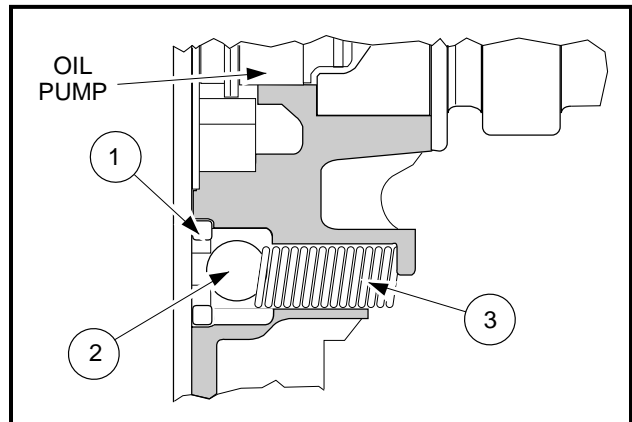
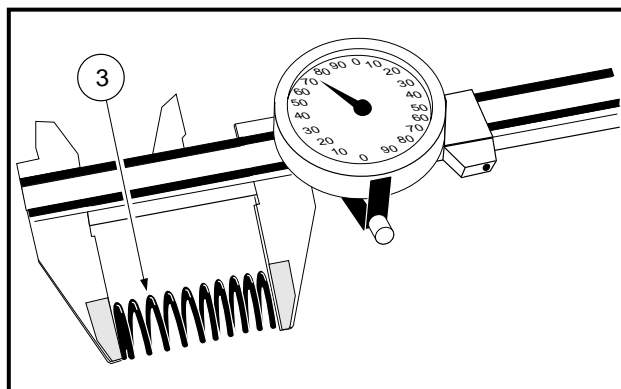

Figure 13-71 Oil Pressure Relief Valve
Figure 13-72 Measure Free Length of Spring
2. Remove the valve seat (1), ball (2) and spring (3) (**Figure 13-71, Page 13-34**).
1. Note the condition of the ball (2) and the valve seat (1). They must not have any nicks or burrs (**Figure 13-71, Page 13-34**).
2. Inspect the relief valve spring (3) for pitting, cracks, rusting and burrs. Replace it if necessary.
3. Measure free length of the spring (3) with a vernier caliper (**Figure 13-72, Page 13-34**). If the free length of the relief valve spring is less than 0.748 inch (19.00 mm), replace the spring.